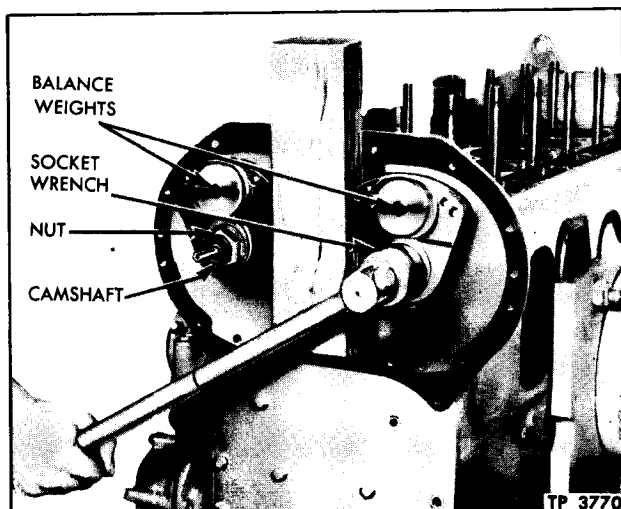

Figure 61—Loosening Cam and Balancer Shaft Weight Retaining Nut (Early 6-cyl. Shown)
4. Wedge a block of wood between balance weights to prevent rotation; then loosen nuts at both ends of shafts with socket wrench, as shown in figure 61.
5. Wedge a block of wood between balance weights, as shown in figure 61 and tighten the lock nuts, using a 1½" socket wrench.